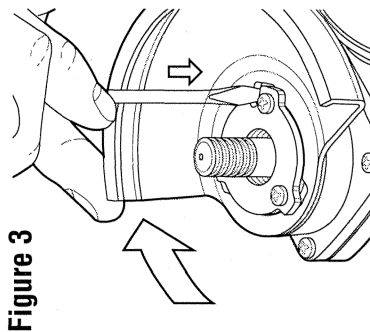

Figure 3
2. Hold the tool, and using your thumb, rotate the guard in the direction of the arrow (Fig. 3). At the same time, using a screwdriver or other pointed instrument, press the locking pin in the slot so the lug on the guard comes into view (Fig. 4).